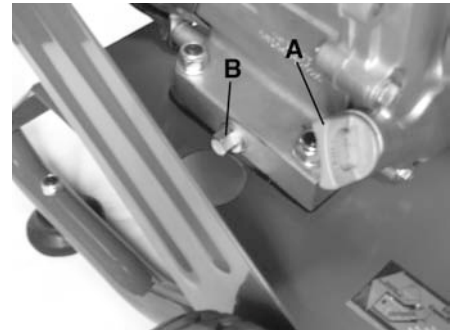

Figure 13
Engine oil should be replaced after the first 20 hours of operation or after the first month of use, it should be replaced every 100 hours or 6 months after. To replace engine oil; Loosen the oil gauge dipstick (A) Fig.13. Place an oil pan underneath drain hex. bolt (B), remove hex. bolt (B) and drain oil. Once all the oil has completely drained, retighten the hex. bolt (B).